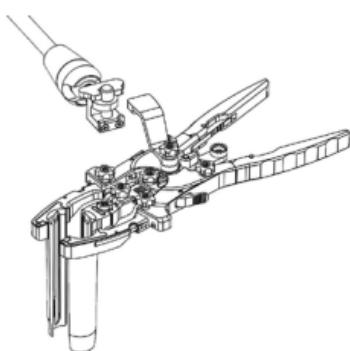

Figure 12
- If using the **Arm Interface** (ML-0902), after ensuring that the **Arm Interface** has been secured onto the **Retractor** frame, bring the **Articulating Arm, Rack Clamp, Large** (ML-0063) to the proximal end of the **Arm Interface** and secure the **Arm Rack Clamp** to the **Arm Interface**. (Figure 12)